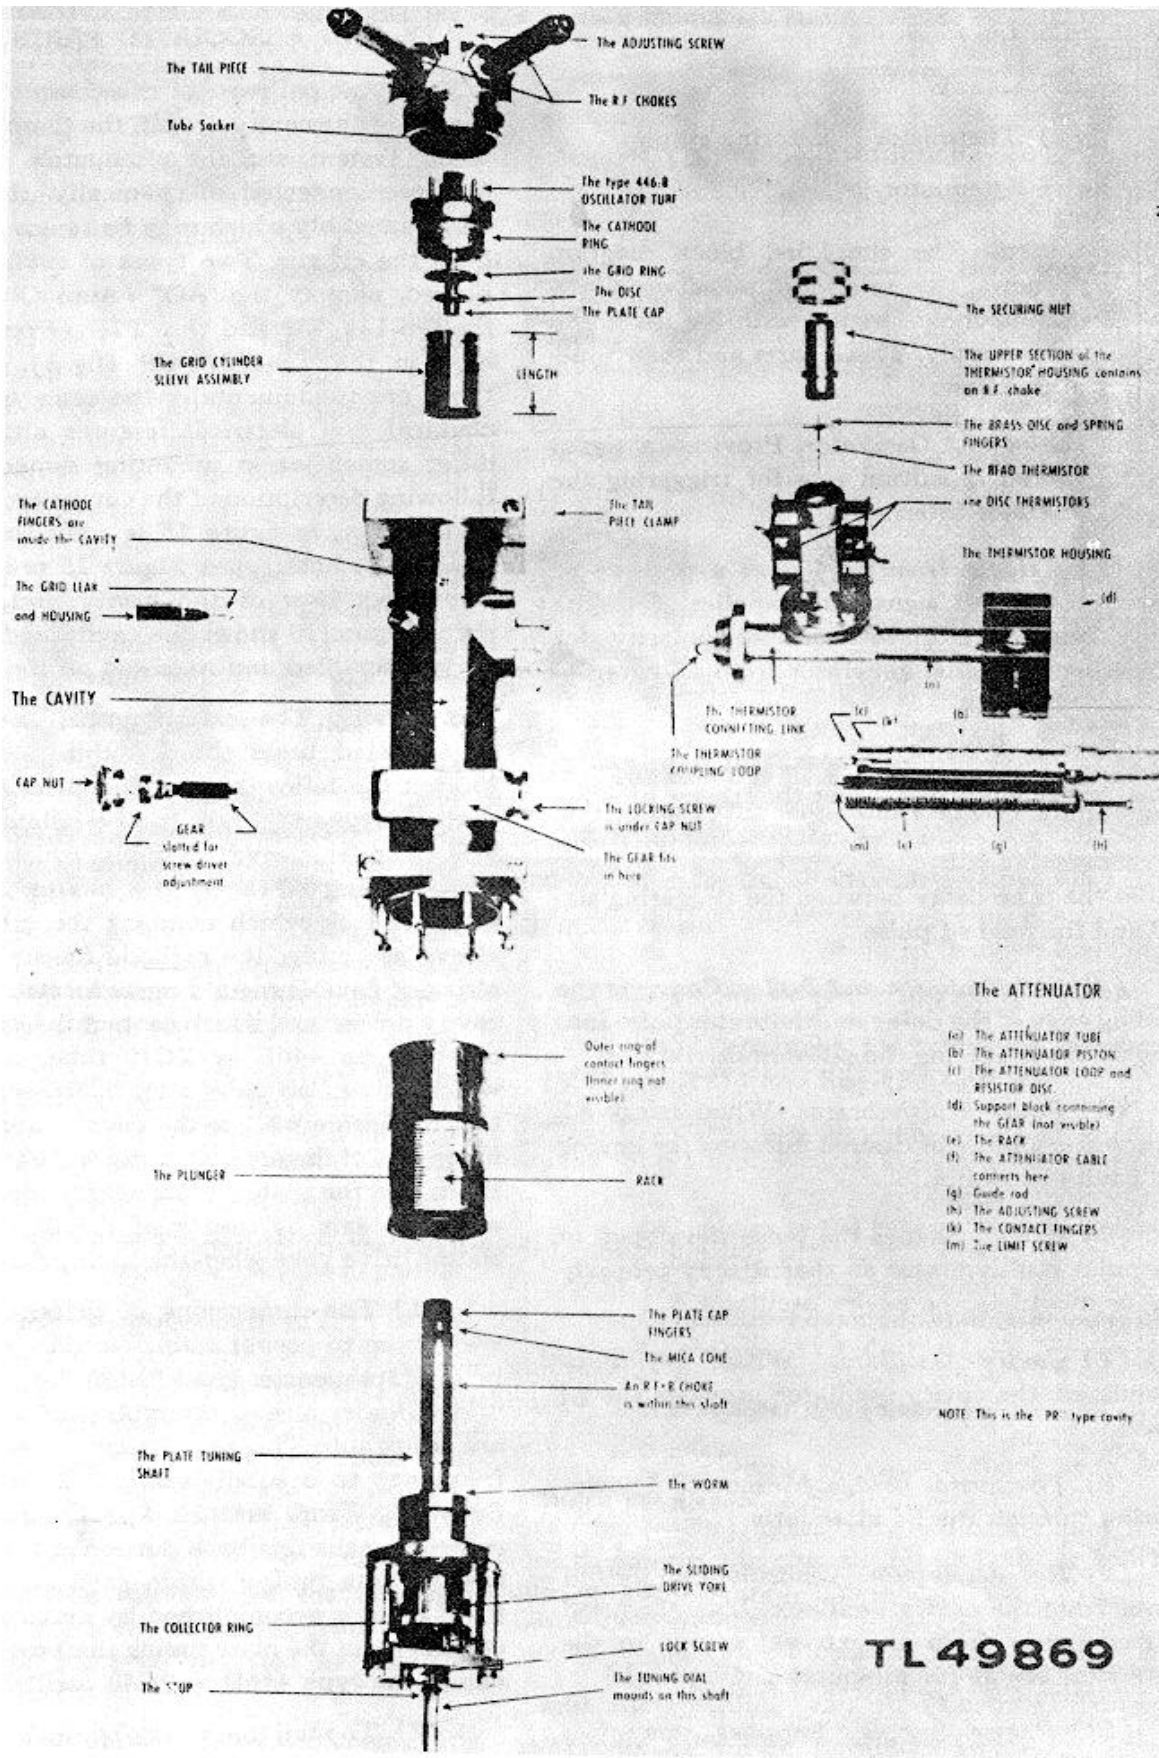

Figure 15. Disassembled cavity
The principal parts of this complete assembly consist of the cavity proper, the thermistor monitoring system, and the attenuator. These parts are interconnected mechanically, thus forming a sub-assembly which may be removed as a unit from the chassis. Two types of cavities are employed, namely the "AO" (Auto Ordnance) in the TS-155/UP and the "PR" (Presto Recording) in the TS-155A/UP (fig. 3). These two types are fundamentally the same in their mechanical and electrical features although they differ somewhat in mounting dimensions. The following description of the cavity and associated parts shown in figure 15 is sufficiently general to apply to both types. Figure 15 presents a disassembled view of the cavity and associated parts. Figure 10 shows the cavity and associated parts assembled and mounted on the chassis.
(1) The attenuator tube is a silver tube which is threaded into the thermistor connecting link and serves to guide the piston. Silver is used to insure good conductivity through the contact fingers of the piston.
(2) The piston travels within the attenuator tube. It contains an insulated brass rod which terminates at one end in the attenuator loop and resistor disk. The resistor disk is not visible in figure 15 but is located close to the attenuator loop. It consists of a thin bakelite disk which has been sprayed on one surface with a resistive material. The brass rod passes through the center of this disk, contacting the resistive material. The outer edge of this disk contacts the inner surface of